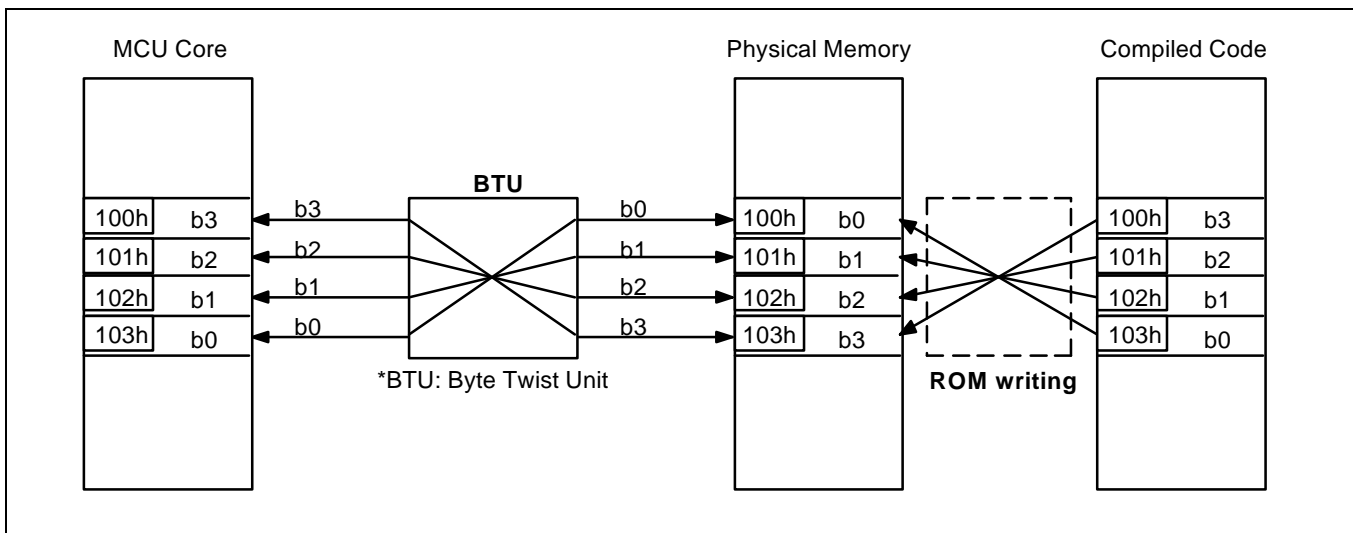

Figure 4-5. The Byte Swap Operation of BTU and Data Positions in Memory
- Supports big-endian mode for most graphic device drivers (see Figure 4-5).
The ARM7TDMI core in KS32C6200 is a little-endian base core supporting the big-endian format. To support the big-endian format in ARM7TDMI, the KS32C6200 adopts BTU, Bus Twist Unit. The main function of BTU is to exchange bytes in a word as shown in Figure 4-5. For example, when MCU core accesses the data '100h', the BTU alters '100h' to '103h', and the CPU will get the data, 103h, in the physical memory.
To put big-endian format data into memory, a compiled code has to put into memory ROM by exchanging bytes in a word. In Figure 4-5, double swappings (BTU and compiled code swapping) enable Big-Endian format with no problem. The reason that the KS32C6200 uses the double swappings is due to internal hardware implementation issue.